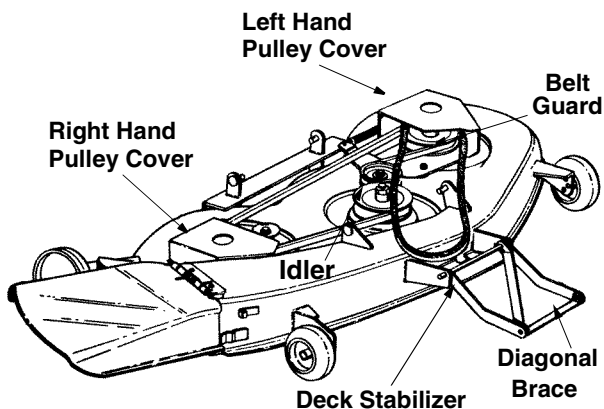

Figure 28
- Remove the left hand pulley cover by unhooking the spring and removing five self-tapping screws. See Figure 28.